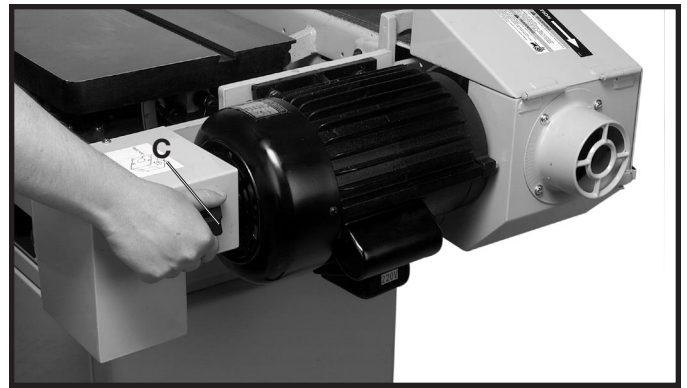
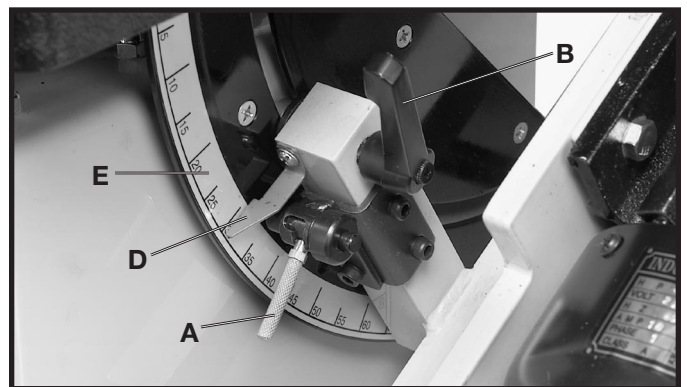

Fig. 39
Fig. 41
2. Move the table to the front of the machine. Grasp the tilting handle (C) Fig. 39.
3. Position the detent pin (A), as shown in Fig. 41.
5. Push down on the handle (C) Fig. 39 until the pointer (D) Fig. 41 lines up with the desired angle on the scale (E).
6. Tighten ratchet handle (B) Fig. 41.